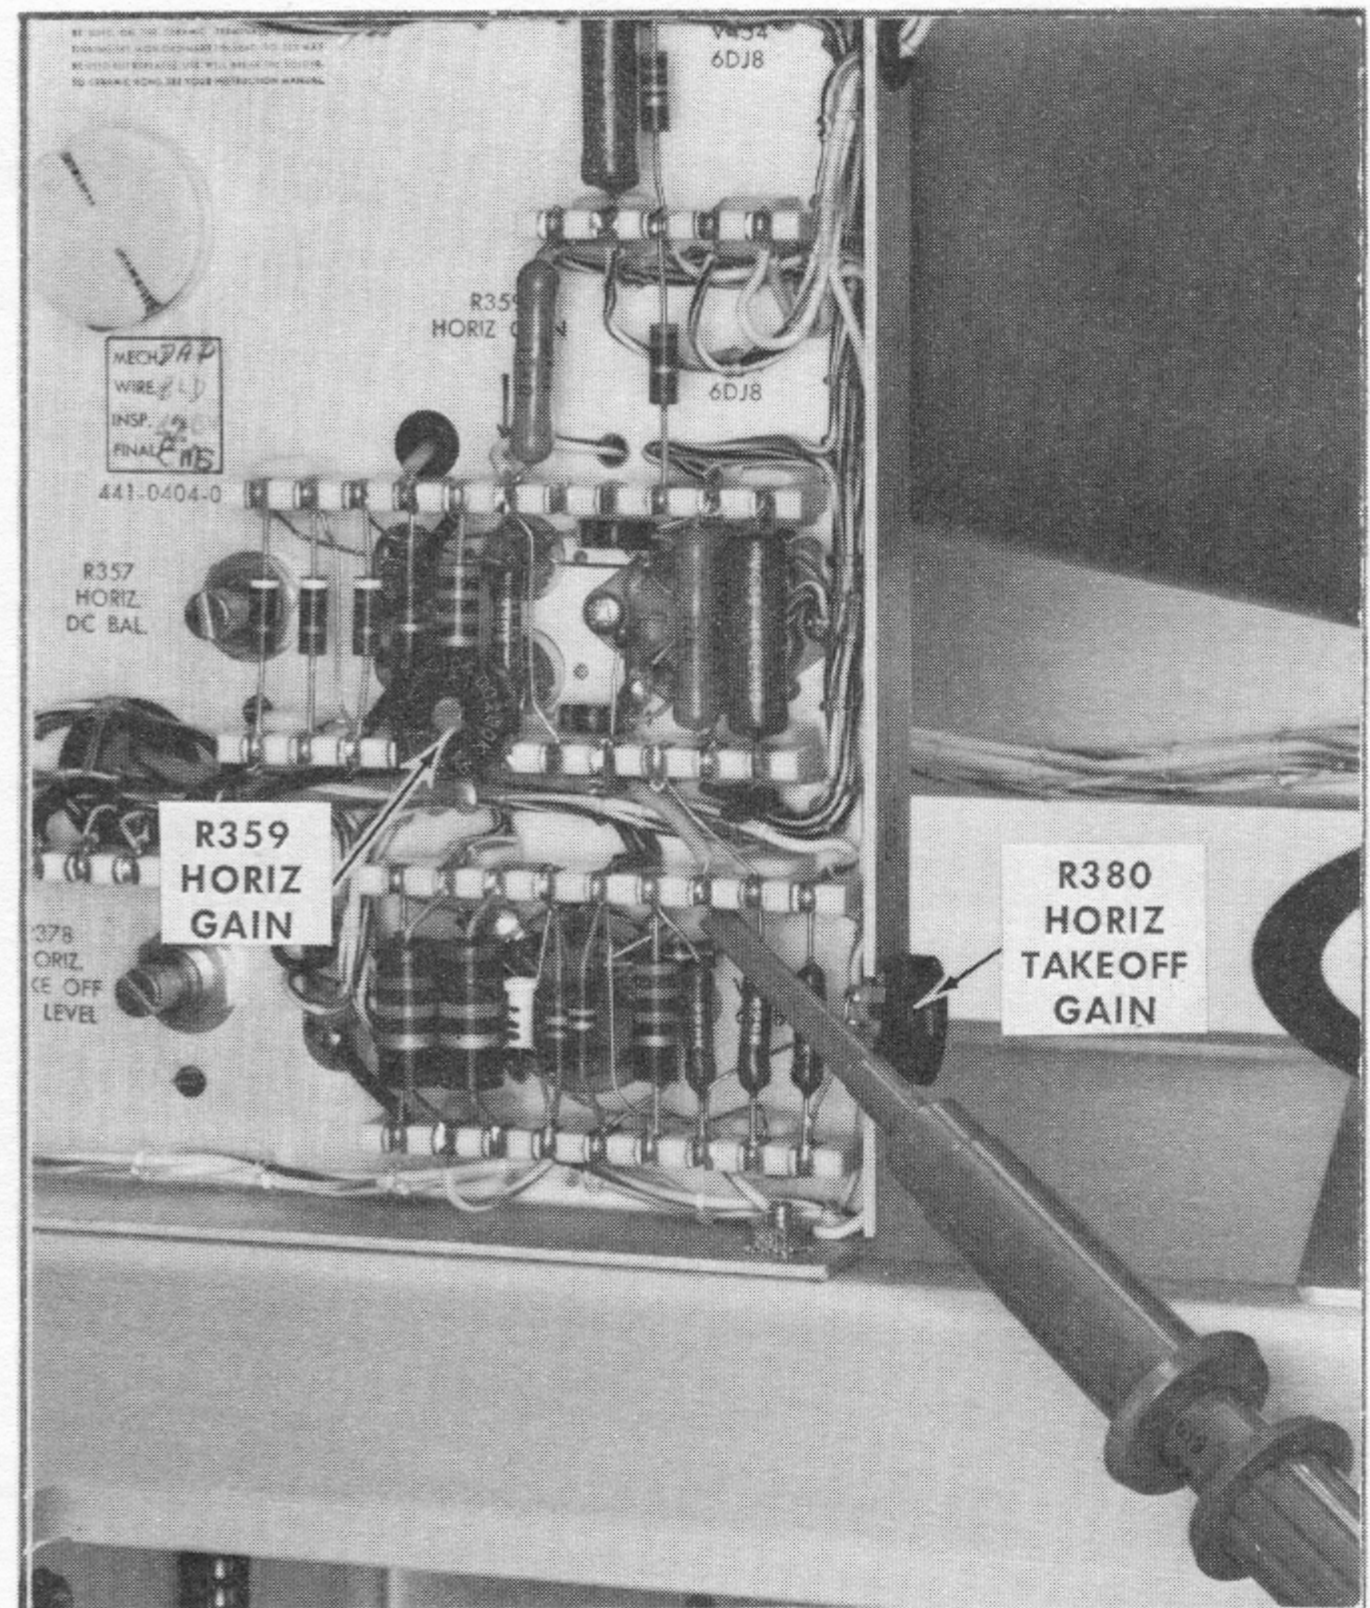

Fig. 6-14. Control and test oscilloscope connections for step 18.
- c. Connect the test oscilloscope 10× probe to the junction of R391 (100 Ω) and the coaxial cable, see Fig. 6-14.